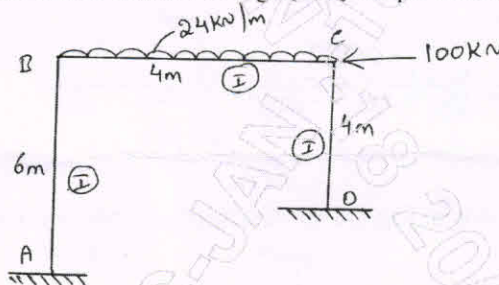

Fig.Q2 (16 Marks)
- 2 Analyze the portal frame shown in Fig.Q2 by slope deflection method. Draw BMD.